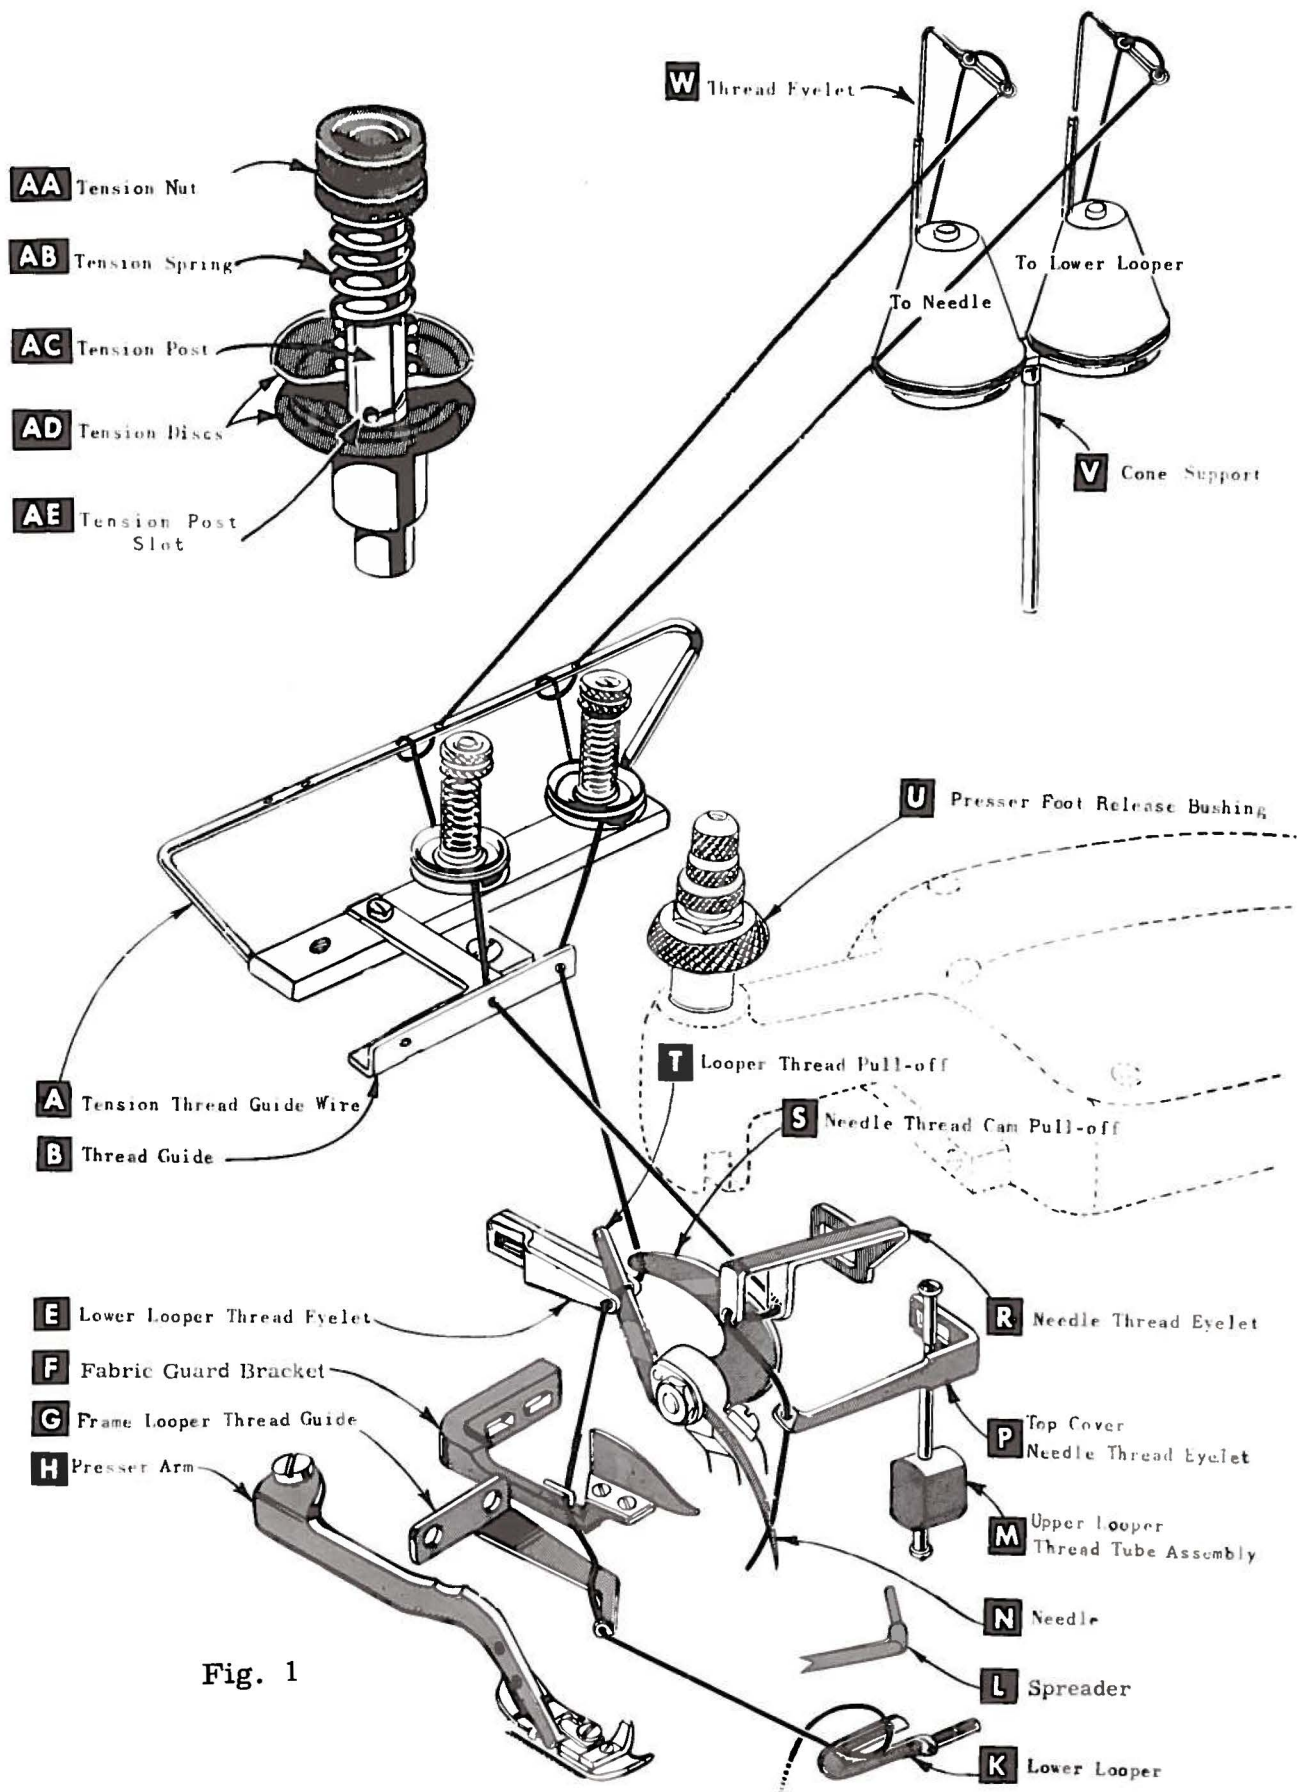

Fig. 1
Release pressure on presser foot by turning the foot release bushing (U, Fig. 1) and swing presser arm (H) out of position. Turn the handwheel in operating direction until needle is at its lowest point of travel. Using hexagonal socket wrench No. 21388 AU, furnished with machine, loosen the needle clamp nut about 1/4 turn. Again turn the handwheel until needle is at high position: withdraw needle.
After thread comes from cone on thread stand (V, Fig. 1), it is brought up through back thread eyelet, then down through front thread eyelet (W). Next it is threaded through each pair of holes in tension thread guide wire (A), down right hand hole and up through left hand hole. Then thread continues between tension discs (AD) through slot (AE), and on through the thread guide (B).
Only parts used for threading two thread machines are shown in threading diagram (Fig. 1, page 9). Parts used in threading three thread machines are found in Fig. 1, page 7, Catalog 103 S. Parts are illustrated in their exact locations for clarity.
Double end of thread and lead it through both eyes of lower looper thread eyelet (E, Fig. 1) from right to left. Note: Thread must pass in front of looper thread pull-off (T). Lead thread behind fabric guard (F) and through frame looper thread guide (G). Turn handwheel in operating direction until heel of lower looper (K) is all the way to the left, then thread through both eyes from left to right. Left eye of lower looper can be threaded easily if tweezers are in left hand.
Turn handwheel in operating direction until needle (N, Fig. 1) is at its highest position. Insert needle thread from right to left, through both eyes of needle thread eyelet (R), under neck of top cover casting, then down through hole in top cover needle thread eyelet (P). Thread needle from front.
The amount of tension on needle and looper threads is regulated by two knurled tension nuts (AA, Fig. 1). Tension on threads should be only enough to secure proper stitch formation.
While sewing on material, check needle thread control as follows: Usually all needle thread is drawn on needle down stroke. At top of needle stroke, thread should be just tight enough to feed chain off stitch tongue. Stitch tends to pull down slightly if excessive thread is pulled on the up stroke. With needle at bottom of stroke, position needle thread eyelet (R, Fig. 1) so that needle thread cam pull-off (S) just contacts needle thread.
With material under presser foot, set lower looper thread eyelet (E, Fig. 1) back and down far enough so thread is a little slack when spreader reaches its extreme left position. Looper thread eyelet (E) should be about horizontal.
Settings 1 and 2 should be made quite carefully. If it can be determined by appearance that skip is definitely not a needle loop skip, reposition looper thread eyelet (E, Fig. 1) by lowering it slightly and bringing eyelet holes in close to bend in looper thread pull-off (T). After this change, increase looper thread tension as much as possible without distorting stitch.
Be sure machine is threaded according to threading diagram (Fig. 1, page 7).